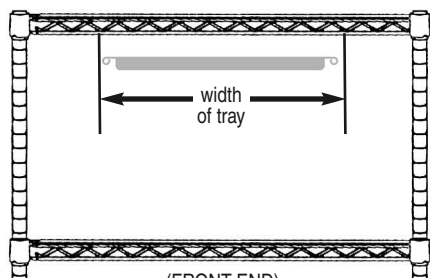

fig. 2
- Accommodate for width of trays to be used. See fig. 2.